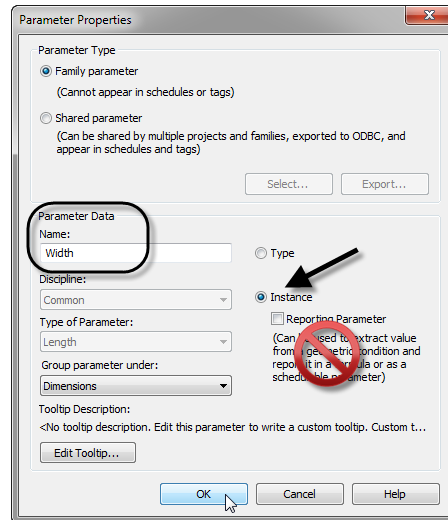

Figure 7
11. In the “Parameter Properties” dialog that appears, name the new parameter: **Width**, choose the **Instance** radio button (do *not* check “reporting”) and then click OK (see Figure 7).